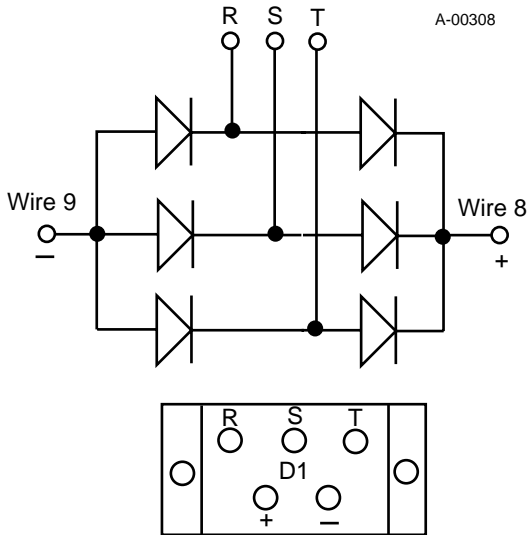

Figure 4-C Testing Input Diode (D1) Assembly (Without Inrush Circuit)
3. The input diode (D1) assembly contains six standard diodes connected in a three phase full wave circuit. Three diodes are common to the negative terminal and three three are common to the the positive terminal. Test each diode in the forward (R, S, T to +) and reverse (R, S, T to -) direction as shown in Figure 4-C. A properly functioning diode conducts in the forward direction (plus to negative) and blocks in the reverse direction (negative to plus).